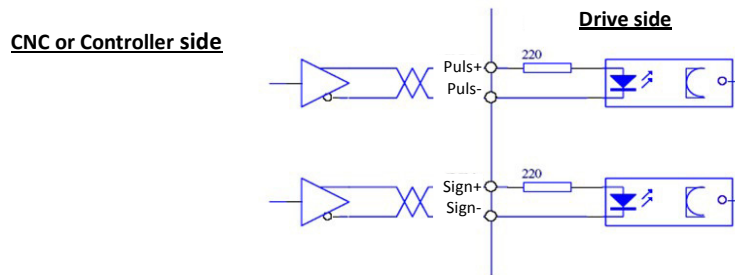

Figure 4-3a Type 3, differential line driver configuration of input pulse command
- ② In order to transmit pulse number correctly, and improve anti-jamming capability, differential line driver mode is recommended (Figure 4-3a);
- ② Differential line driver configuration adopts AM26LS31, MC3487 or similar RS422 line driver;
- ② Use single-ended configuration for lower operation frequencies of up to 200KHz. According to the pulse input circuit, the drive consumption current is 10-15mA. The maximum voltage of the external power supply is 25Vdc. in order to determine the resistor R (limiting resistor) you can refer to these practical data: